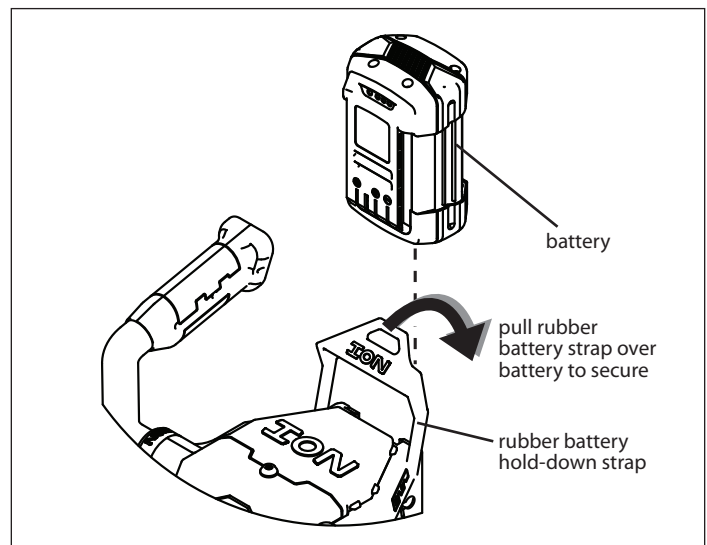

Figure 4
1. Remove the rubber battery hold-down strap by pulling it towards the motor. **SEE FIGURE 4.**